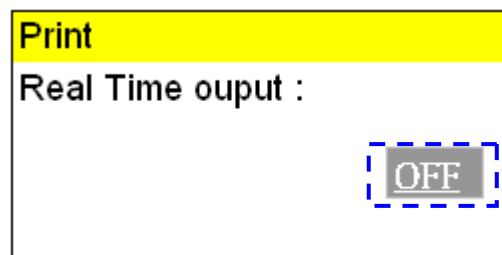

Figure 127
- C. Press  or  button to enable or disable the real time printout, and press  button to store the parameter in Figure 127.